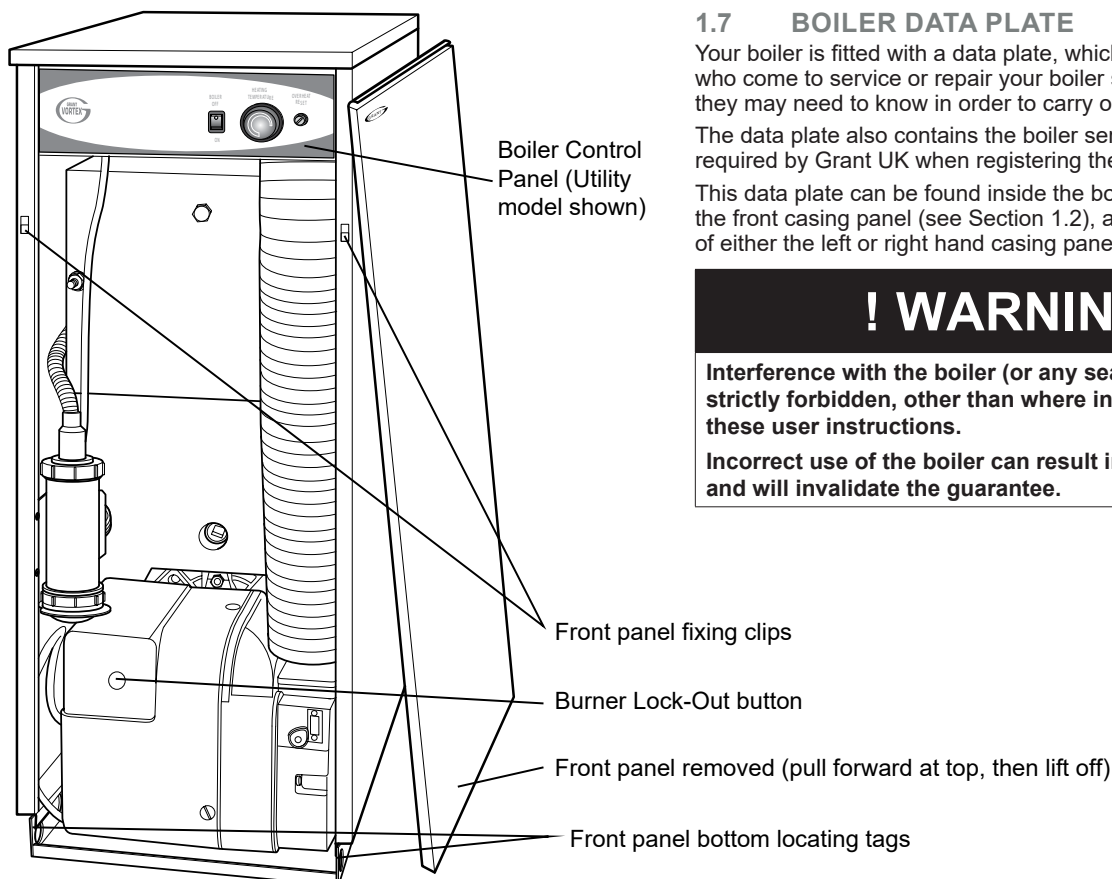
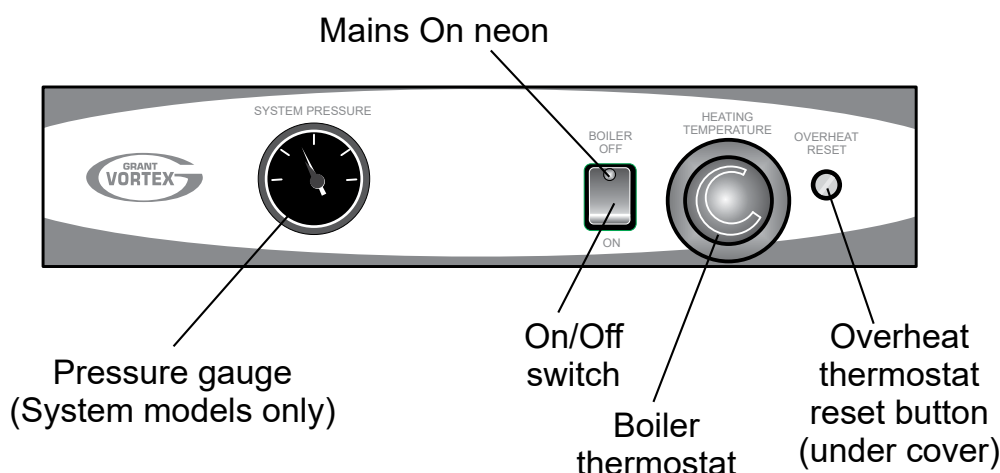

Figure 1-1: Boiler components
Figure 2-1: Vortex Pro boiler control panel
Vortex Pro boilers have a 'mains on' neon, see Figure 2-1, which lights when the boiler is switched on.
To gain access to the boiler controls, pull the front panel forward at the top to disengage the fixing clips, then lift it up and off the boiler, as shown in Figure 1-1.
4. Check if the burner 'Lock-Out' reset button on the burner body (refer to Figure 1-1 for location) is lit.
Refer to Figure 1-1 for the location of the control panel within the boiler casing and Figure 2-1 for the details of the control panel.
To reset the overheat thermostat, unscrew the small plastic cap marked "reset" (see Figure 2-1), press the button and replace the cap.